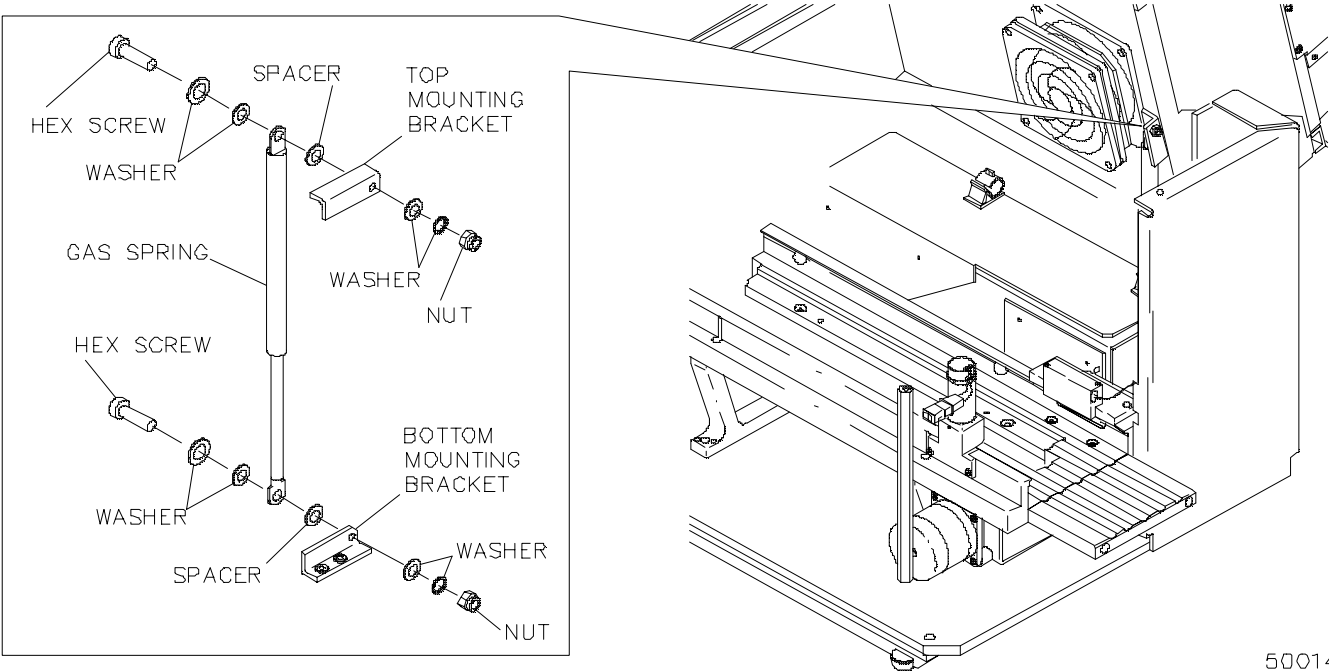

Figure 4-14. Card Cage Gas Spring Assy
3. Remove mounting hardware at bottom of Gas Spring Assy while supporting Card Cage Assy in raised position (**Figure 4-14**).